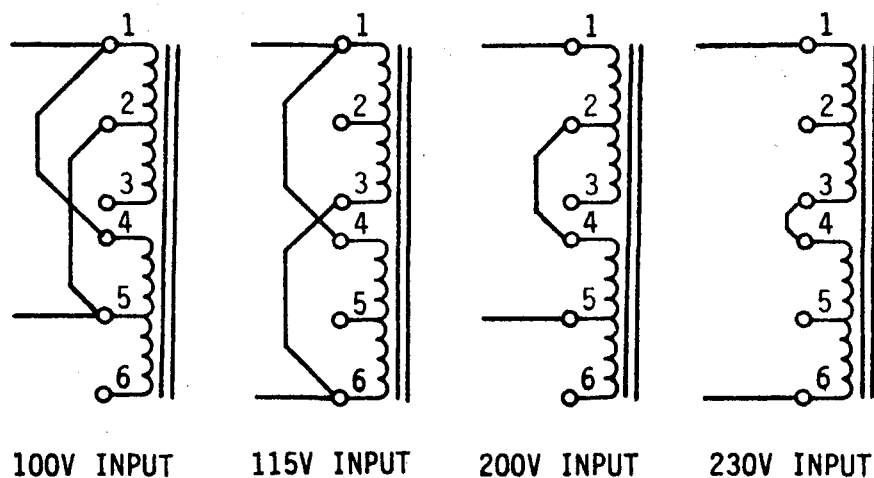

Figure 2-1. VDT Power Transformer Input Connections
3. Verify the input power configuration is correct (Table 2-1 and Figure 2-1).
The 7270/7280 VDT is capable of operating with ac line voltages of 100, 115, 200, or 230. The power transformer (Figure 2-1) has been provided with a tapped primary to accommodate the four different input voltages. The ac line should be connected to the primary taps as shown in Table 2-1 and Figure 2-1.